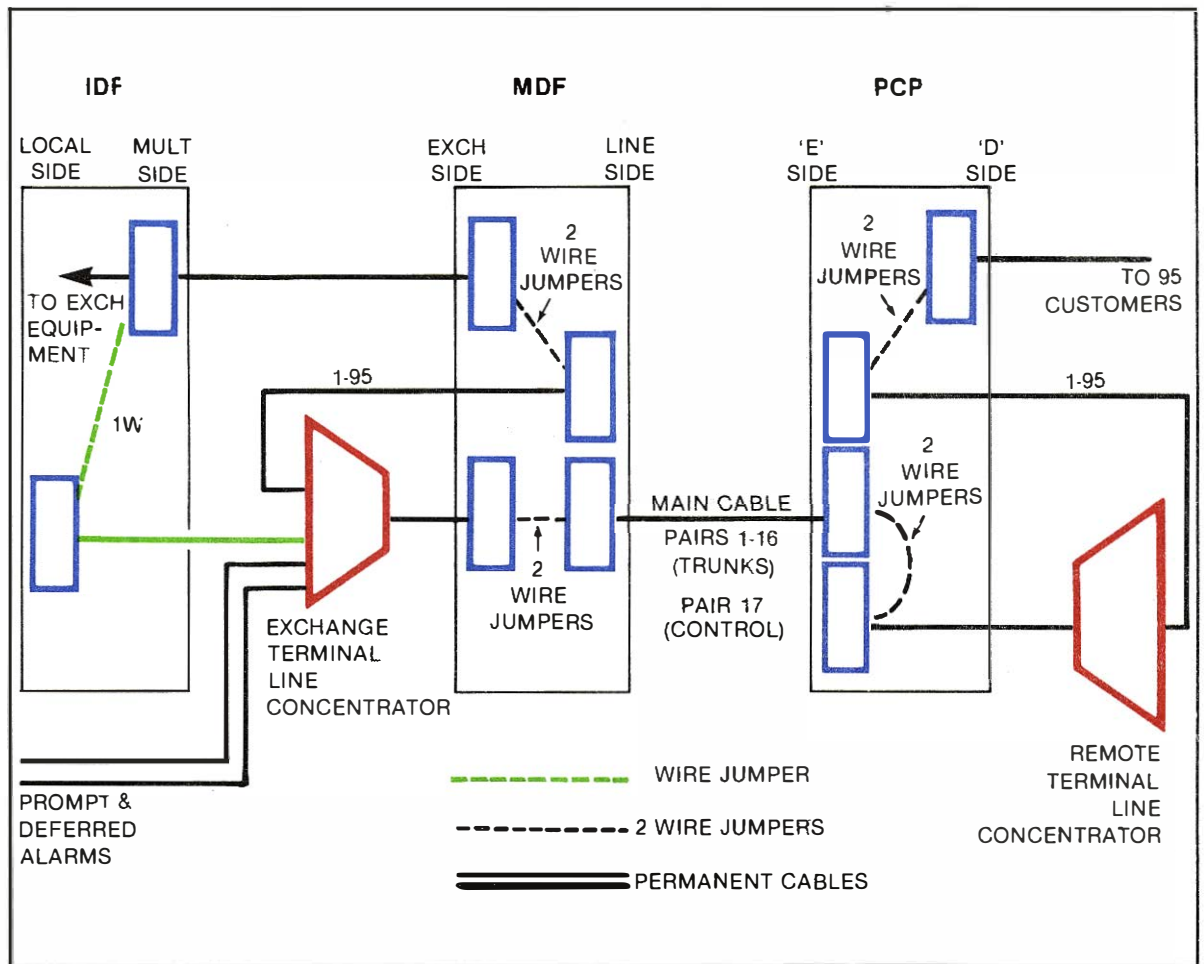

Fig 4
3. Typical Cabling Arrangements (See Fig 4)
The system is designed in such a way that once the initial installation has been completed, any further provision or recovery of customers lines follows a similar procedure to that of ordinary lines apart from an extra single wire jumper required in the exchange. Figure 4 shows a typical cabling and jumpering arrangement.
MDF (See Fig 4)